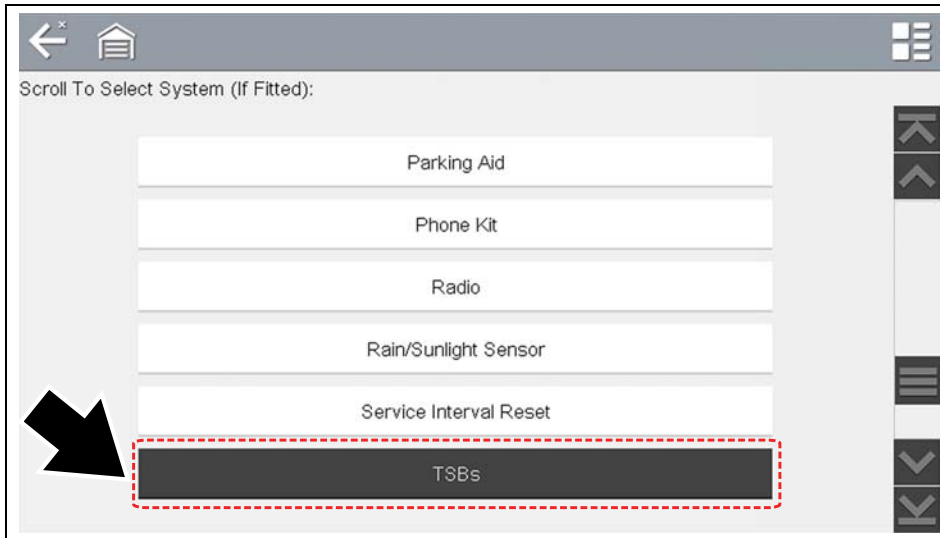

Figure 7-4
1. From within a current Scanner session select **TSBs** from the System menu (Figure 7-4).